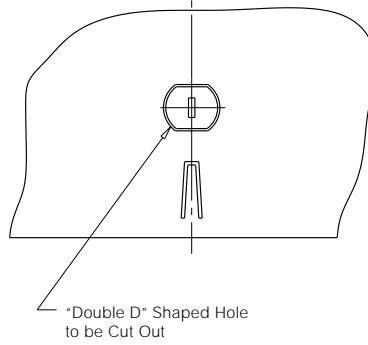

Figure 2
2. Cut out "Double D" shaped hole in top of door. Cut from the inside out, through "Double D" shaped groove (see Figure 2). Resulting lock hole should accept the matching shape of the lock body.